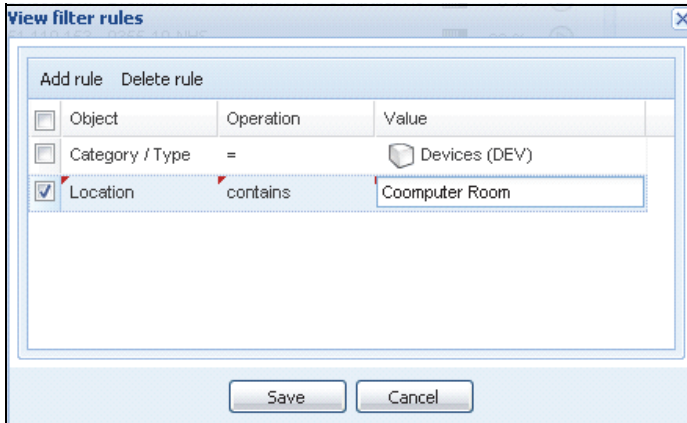

Figure 45. View Filter Rules Dialog Box
- 3 Click **Edit a Filter View**. The View Filter Rules dialog box displays (see Figure 45).
NOTE: With the setup shown in Figure 45, this filtered view will allow you to view the devices whose Location field contains the value “Computer Room.”